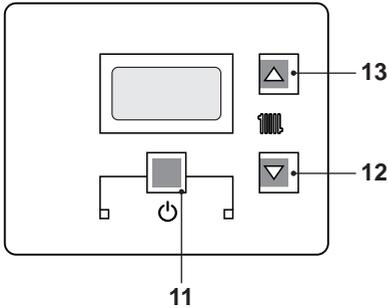
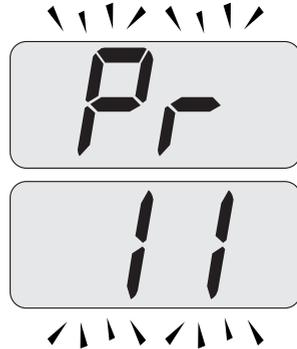
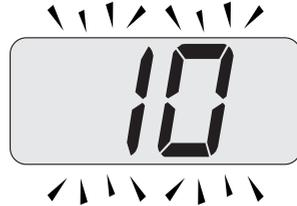

Fig. 7.23
Fig. 7.25
Fig. 7.26
- Enter in "programming mode" by pressing keys 11 - 12 - 13 (Fig. 7.23) for 10 seconds
- Scroll the various parameters using keys 12 or 13 until the letters **Pr** that alternate with code **11** are displayed on the LCD display, indicating that "parameter 11"(Fig. 7.25) has been activated.
- Press keys 11 and 13 (Fig. 7.23) at the same time until the value of parameter 11 (10=60 seconds) (Fig. 7.26) is displayed on the LCD display .
- By pressing key 11 (Fig. 7.23) confirmation of the inserted value is obtained.
- Press keys 11 and 12 (Fig. 7.23) at the same time to exit without changing the value (return to the parameters list Fig. 7.25)
- Press keys 11 - 12 - 13 (Fig. 7.23) at the same time for 10 seconds to exit the "programming mode".